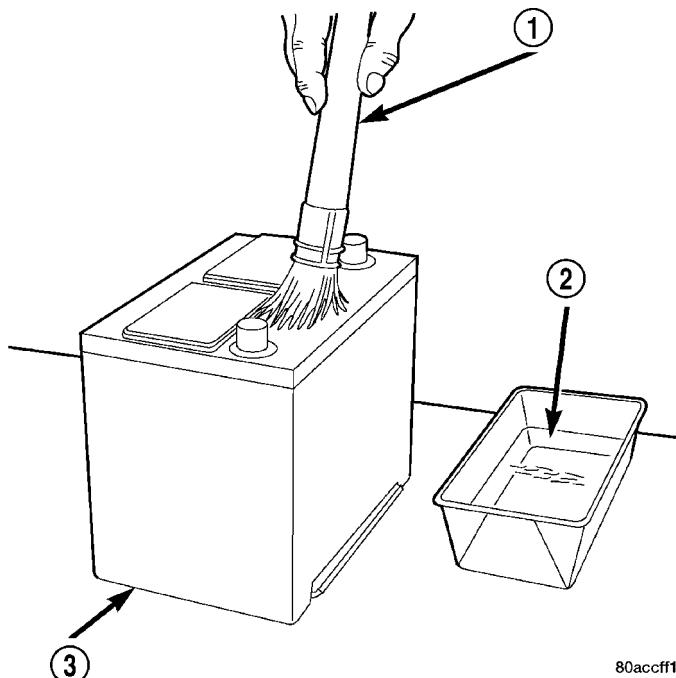

Fig. 2 Battery Cleaning - Typical
(2) Clean the battery tray and battery holdown hardware of all corrosion. Remove any corrosion using a wire brush and a sodium bicarbonate (baking soda) and warm water cleaning solution. Paint any exposed bare metal.
(3) If the removed battery is to be reinstalled, clean the outside of the battery case and the top cover with a sodium bicarbonate (baking soda) and warm water cleaning solution using a stiff bristle parts cleaning brush to remove any acid film (Fig. 2). Rinse the battery with clean water. Ensure that the cleaning solution does not enter the battery cells through the vent holes. If the battery is being replaced, refer to Battery System Specifications for the factory-installed battery specifications. Confirm that the replacement battery is the correct size and has the correct ratings for the vehicle.
(4) Clean the battery thermowrap with a sodium bicarbonate (baking soda) and warm water cleaning solution using a soft bristle parts cleaning brush to remove any acid film.